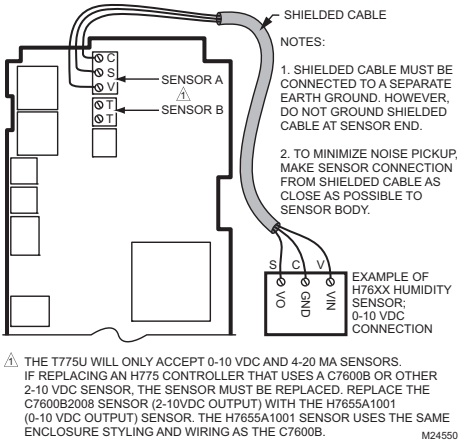

Fig. 5. Sensor Wiring — 3-wire shielded cable connection from Sensor A to 0-10 Vdc sensor (H76xx humidity sensor shown).
The sensors in Fig. 5 – 8 beginning on page 6 are examples and illustrate voltage and current wiring for 3-wire and 2-wire sensors to the Sensor A terminal. For
1. Other transmitters can be wired in the same manner. For example, the 0-10Vdc wiring shown in Fig. 5 on page 6 with the H76XX sensor can also be done with the P7640 or any other transmitter.